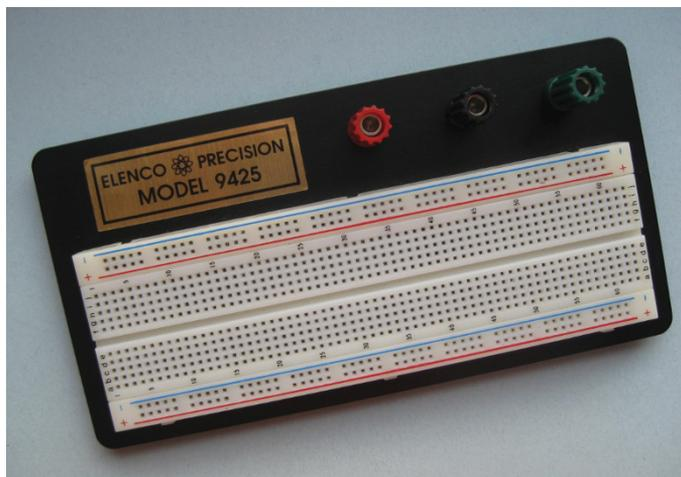

FIGURE 2-2:
- » **Solderless breadboard:** You use a breadboard to build, explore, update, tear down, and rebuild circuits. I recommend you purchase a larger model, such as the Elenco #9425 830-contact breadboard (roughly \$14 at various online suppliers), which is shown in Figure 2-2.